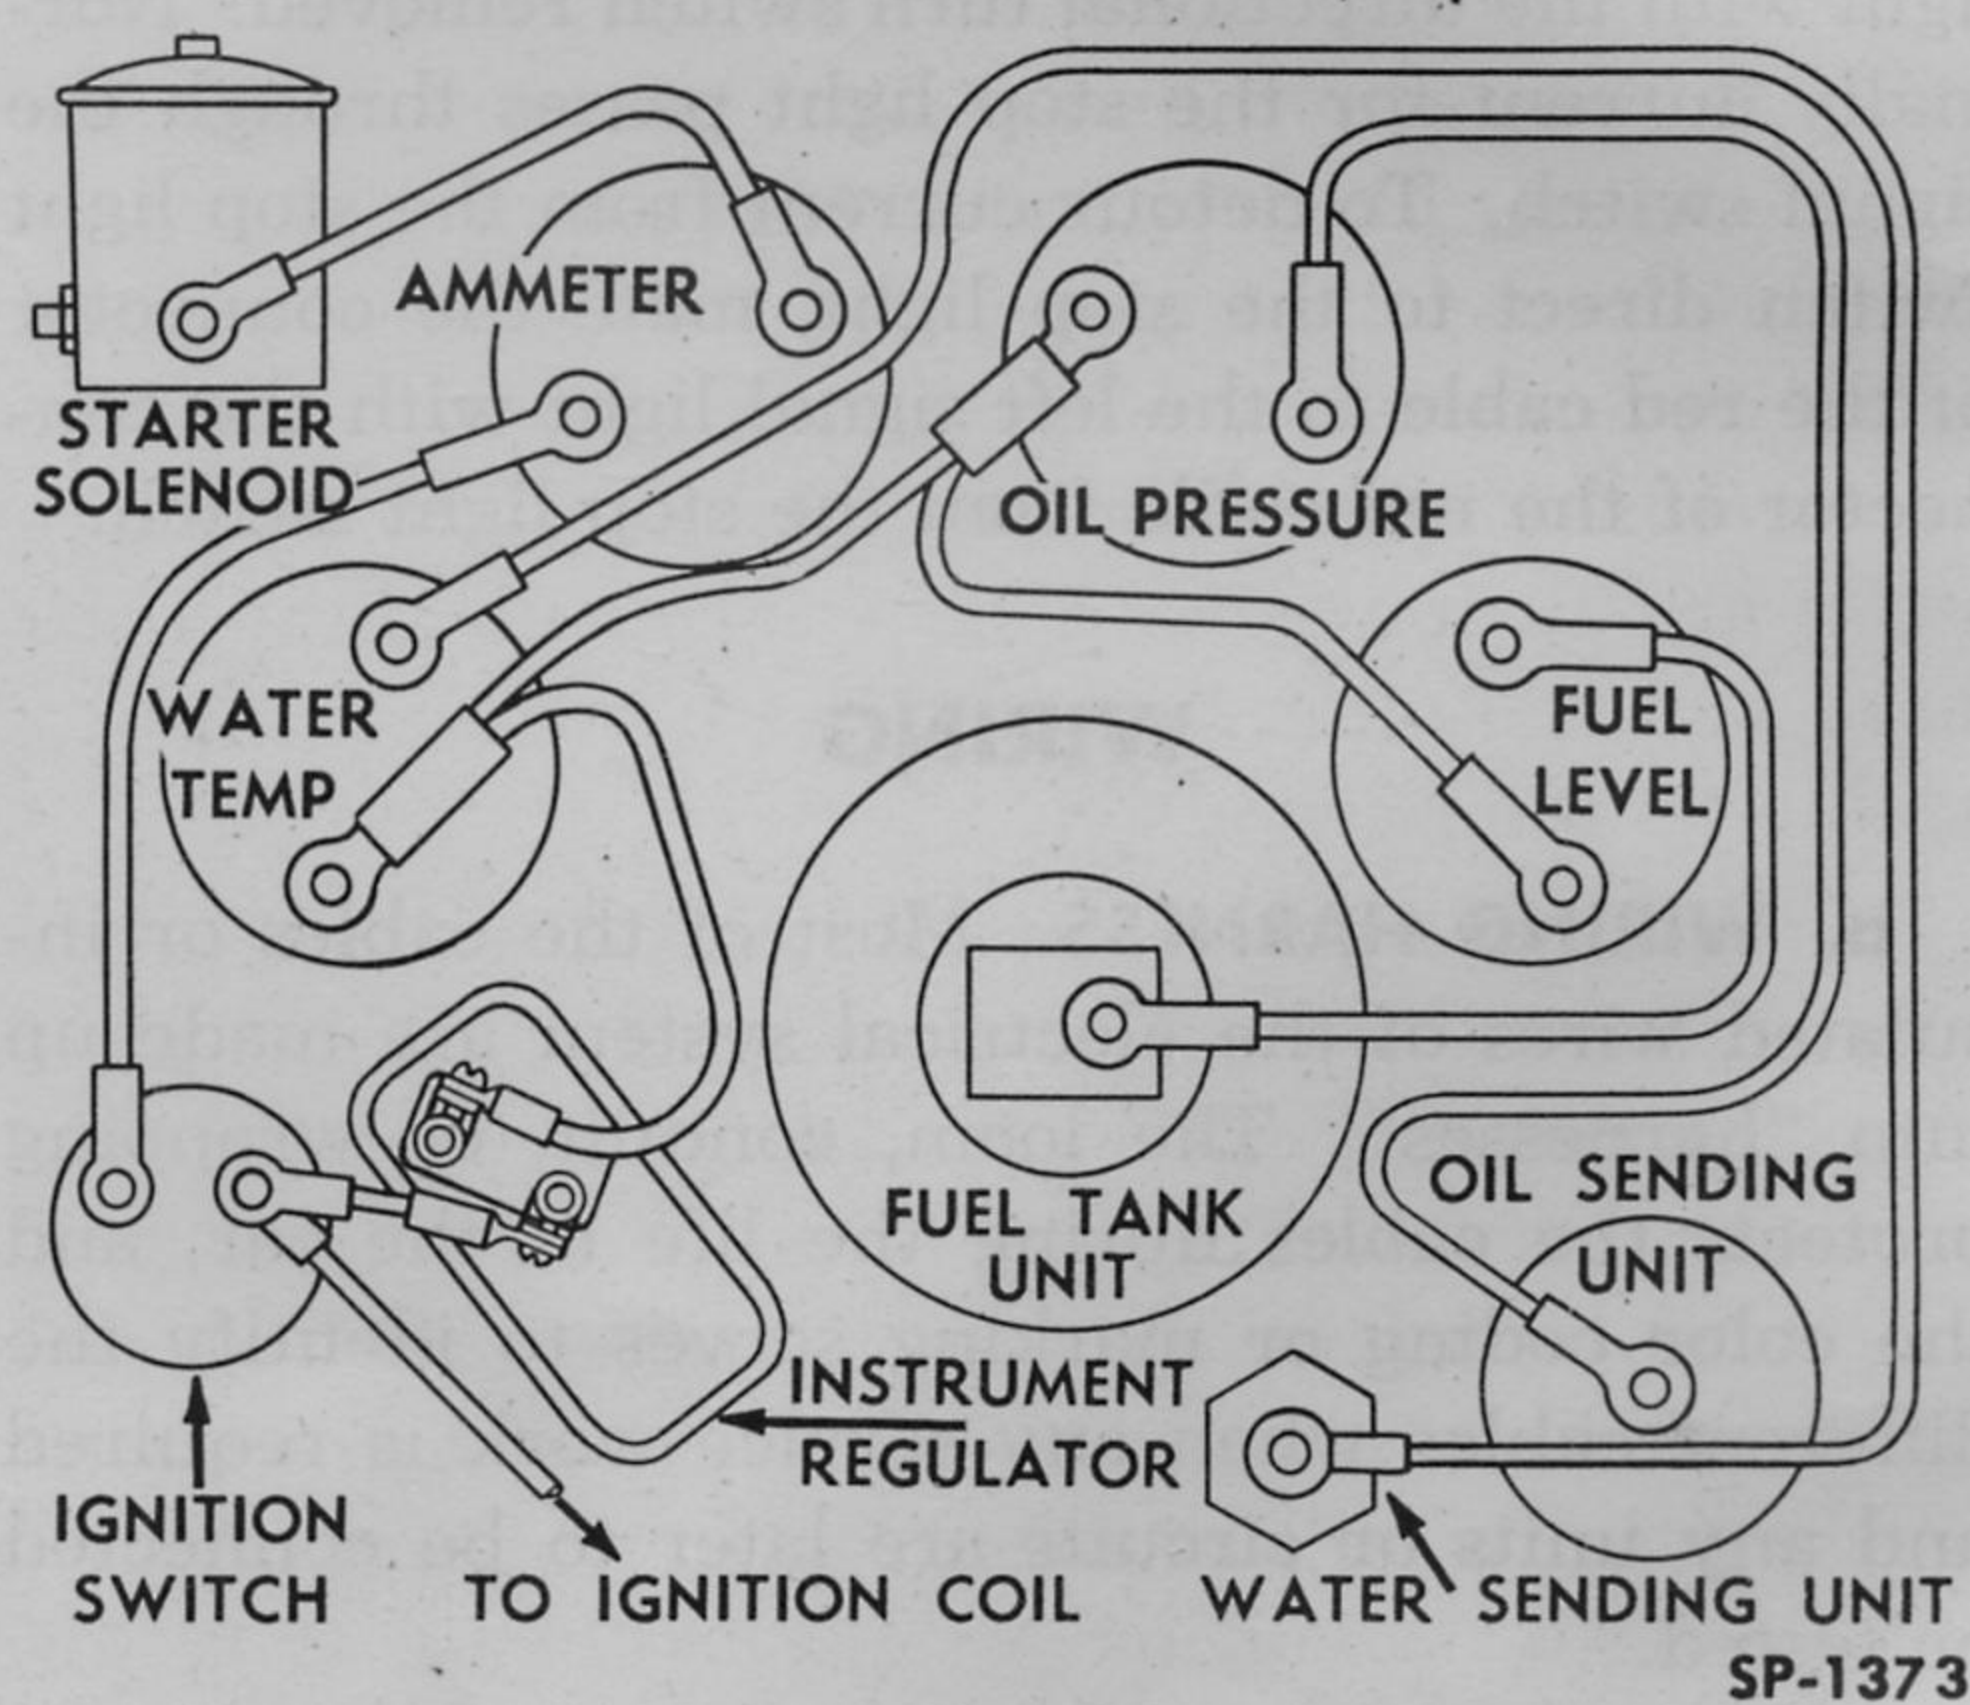

Fig. 441 —Kaiser Fuel, Oil and Water Temperature Gauge Wiring
on. Fig. 441 shows the electrical circuits connecting the gauge units. Section 16, "Instruments and Accessories" of this manual illustrates the gauge cluster and supplies instructions for removal and installation of the indicating units.
1. Operation. To assure that variations in battery or generator voltage will not affect the accuracy of the gauges, an instrument voltage regulator is provided. This device is mounted on the instrument cluster (Fig. 441). It uses a thermo-bimetal interrupter, somewhat similar in operation to a flasher unit, to limit the effective average voltage
2. Inspection and Maintenance. As indicated in the wiring diagram (Fig. 441) each of the three instrument sending units has its own lead or cable from its terminal to its receiving unit in the instrument cluster. The other terminals of the receiving units are all connected to one terminal of the regulator and the other regulator terminal is connected to the ignition switch.